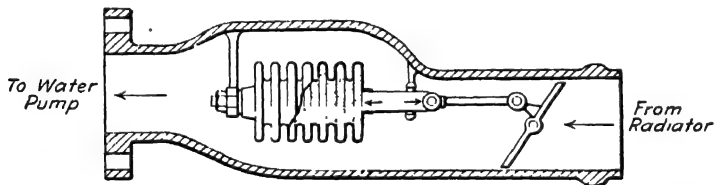

FIG. 172.—Thermostat for Regulating Temperature of Cooling Water.
Thermostatic Controls.--Thermostatic controls for the purpose of increasing the thermal efficiency, and, indirectly, of keeping down carbon deposits (Fig. 172), have been fitted to the water-circulating system in some engines. These thermostats block the free circulation of the water from the cylinder cooling jackets until the temperature of the cylinder walls and valve pockets has attained a predetermined value. With this arrangement it is claimed, (1) that the explosion chamber and cylinder walls can be maintained at a temperature sufficiently high to burn efficiently the fuel within, (2) that any reasonable oil surplus arriving above the piston heads will be flashed off, leaving practically no carbon deposit behind.